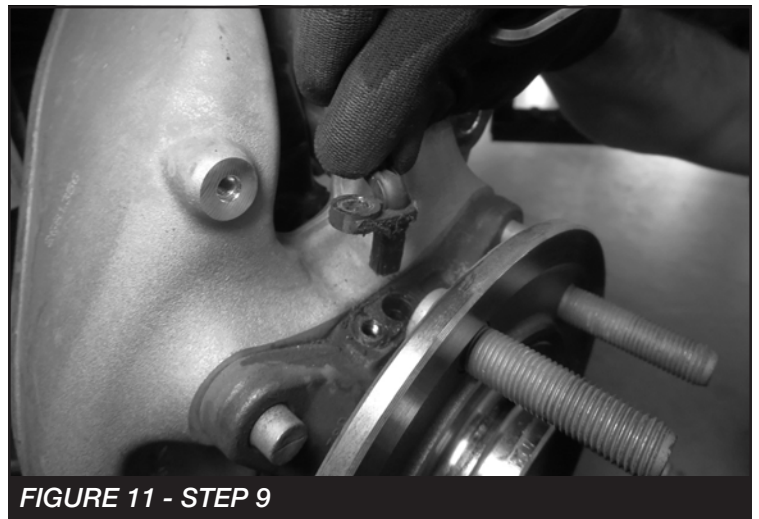

FIGURE 11 - STEP 9
9. Remove the wheel speed sensor from the top of the hub assembly. Save hardware. **SEE FIGURE 11**